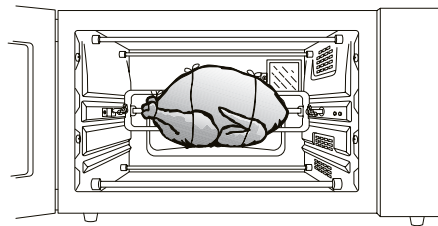

Figure 10
2. Carefully center the food on Rotisserie Bar using the Meat Tines to secure the food in place. (See Figure 10.) If the food is not centered it will cause a jerking motion during cooking. This results in undue stress on the Motor.